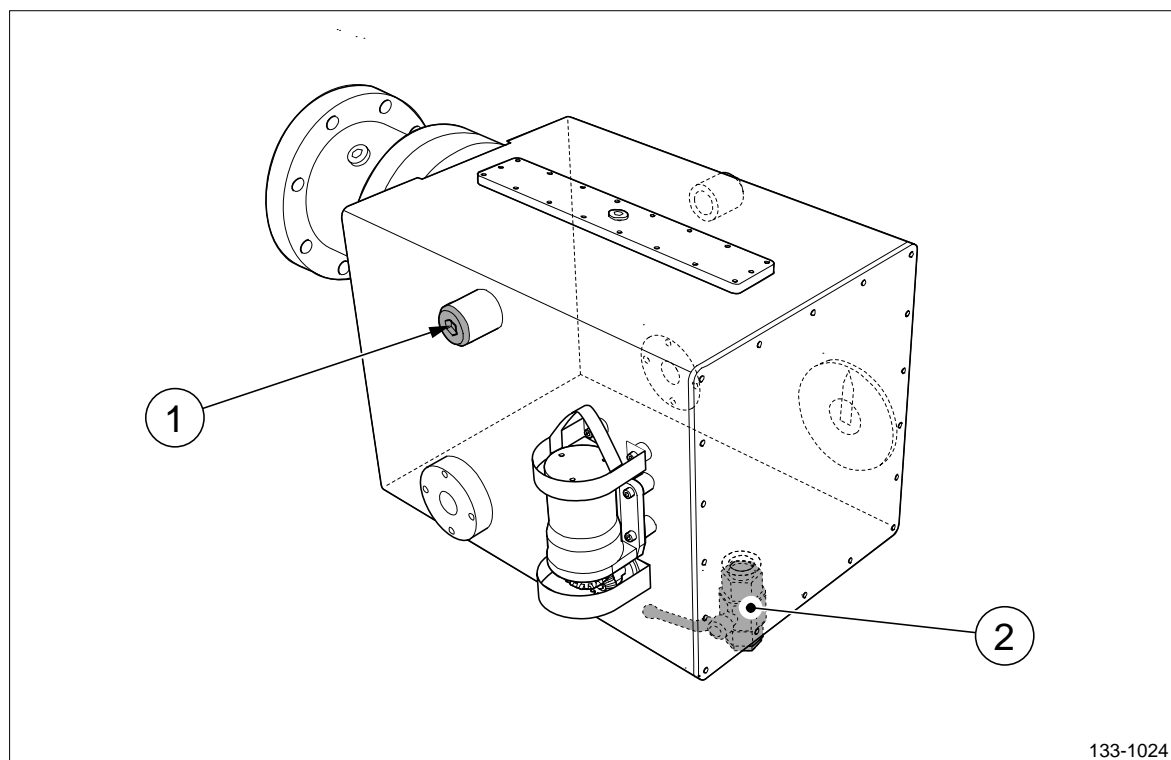

Figure 9 OD-box drain plug and R plug.
5. Place a container under the drain valve T on the OD-box (pos 2, figure 9).